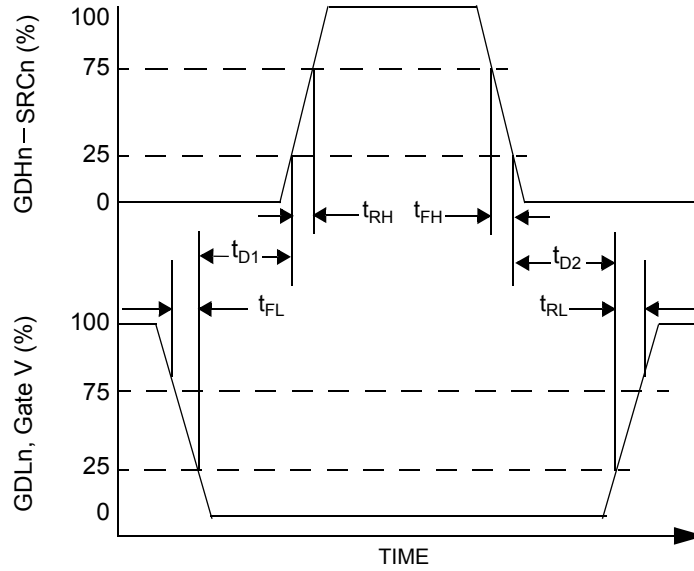

Figure 2. Shoot-Through Suppression
- See Figure 2, page 9.
The control logic block controls when the low-side and high-side drivers are enabled. The logic implements the Truth Table found in the specification and monitors the M0, M1, PWM, CL, OT, OV, LSE, and HSE terminals. Note that the drivers are enabled 3  $\mu\text{s}$  after the PWM edge. During complimentary chop mode the high-side and low-side drives are alternatively enabled and disabled during the PWM cycle. To prevent shoot-through current, the high-side drive turn-on is delayed by  $t_{D1}$ , and the low-side drive turn on is delayed by  $t_{D2}$  (see Figure 2, page 9).